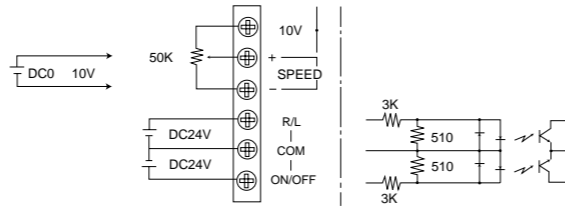

Fig. 9
- Speed between 0-40,000 min⁻¹ (ASTRO-E 400,) or 0-50,000 min⁻¹ (ASTRO-E 500) can be controlled variably when an external voltage (0-10 VDC, 1 mA Max.) is connected to the SPEED terminal.(Fig.9)
- Motor runs in the reverse direction when 24 VDC is applied between the R/L and COM terminals, and in the forward direction when 0 VDC is applied.(Fig.9)
- Motor starts to run when 24 VDC is applied between ON/OFF and COM terminals, and stops when 0 VDC is applied.(Fig.9)
- The motor stops rotation to protect when overloading and Red Lamp ④ lights. Release circuit breaker after lightening loading.
Apply 0 VDC(OFF)ON/OFF and COM terminal(Fig. 9)for reset and Red Lamp ④ is off. Apply 24 VDC(ON)ON/OFF and COM terminals for re-start.